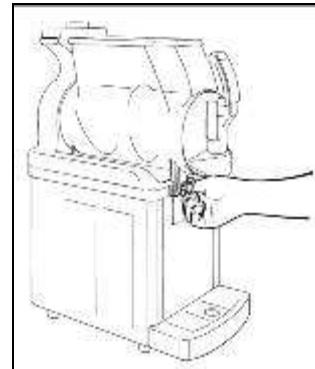

Fig. 13
- Unscrew the bowl knobs (fig.13).